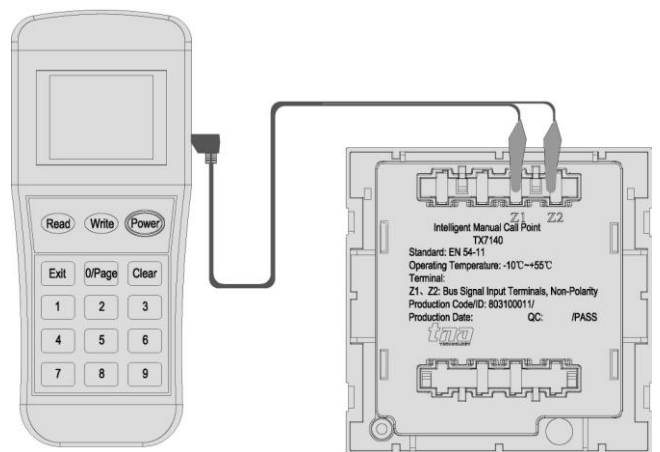

Figure 3
1. Connect the programming cable to Z1 and Z2 terminals (Figure 3). Press **"Power"** to switch on the unit.